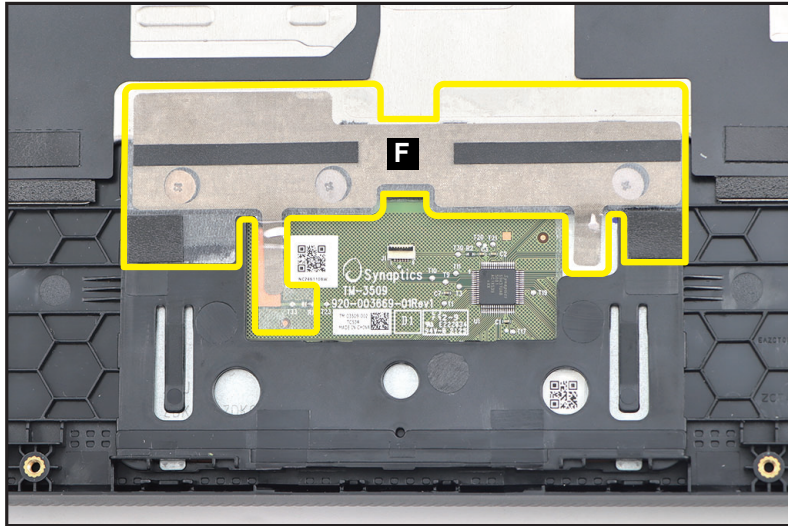

Figure 1-15. Touchpad Module Removal
5. Gently peel off the conductive tape with mylar (F) from the touchpad module and top assembly (Figure 1-15).